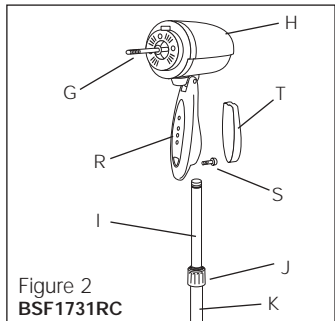

Figure 2
Step 5: Align the tabs on the grills, and press grills firmly against each other. (Figure 2)